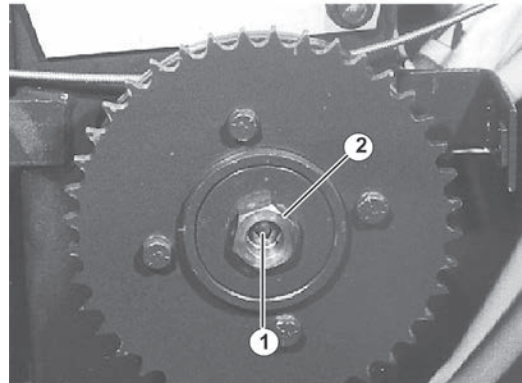

FIGURE 1
2. From left side of cut-off, remove belt shield and loosen the locking screw **1** and end bolt **2**. (Figure 1) Remove cut-off drive chain and finish removing the locking screw and endbolt. Remove flywheel and clutch lining. If the ball bearing is worn, remove and replace.